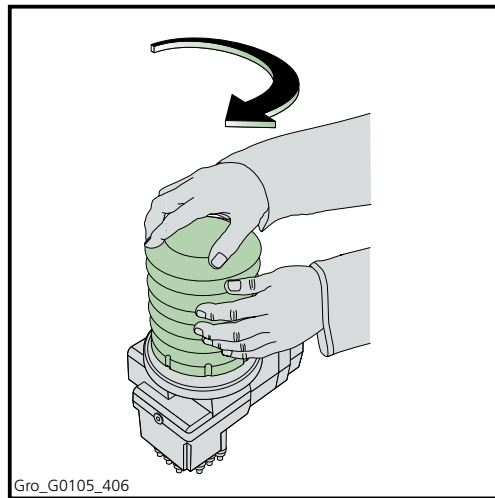

Figure 4.7 Fitting a new grease cartridge
4. Remove the cap from the new grease cartridge, but leave the foil in place. Screw the cartridge clockwise onto the pump (Figure 4.7). The foil is removed automatically.